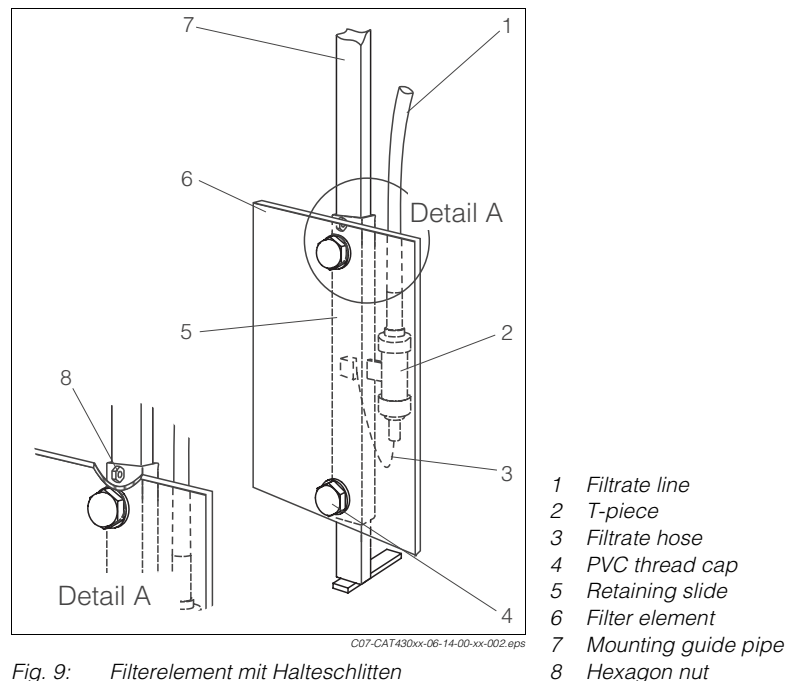

Fig. 9: Filterelement mit Halteschlitten
1. Feed the filtrate hose (Fig. 9, pos. 3) of the filtrate line (pos. 1) through the T-piece at the PVC retaining slide (pos. 5).
3. Fasten the stainless steel chain at the retaining slide by directing it through the hexagon nut (pos. 8).
4. Remove the PVC screw caps (pos. 4) and place them so that they can be reached.
4. Have the PVC screw caps (s. Chap. 3.3.2, fig. 9, pos. 4) ready.
7. Cut the filtrate tube (pos. 3) to the right length, so that it runs in the bend.
2. Loosen the nut on the Pg hose gland (→ Fig. 9, pos. 11) from the end of the spiral hose.
6. Slide the thermal element into the pipe socket (pos. 14), such that the end of the electric band heater is at the top and the feeder cable is at the bottom.